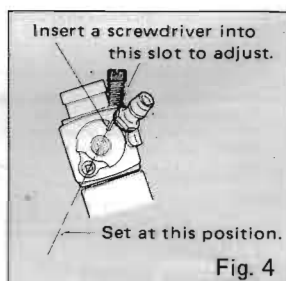

Fig. 4
3. Make sure that the mixture control disc is aligned in the centre of its movable range as illustrated in Fig. 4. If